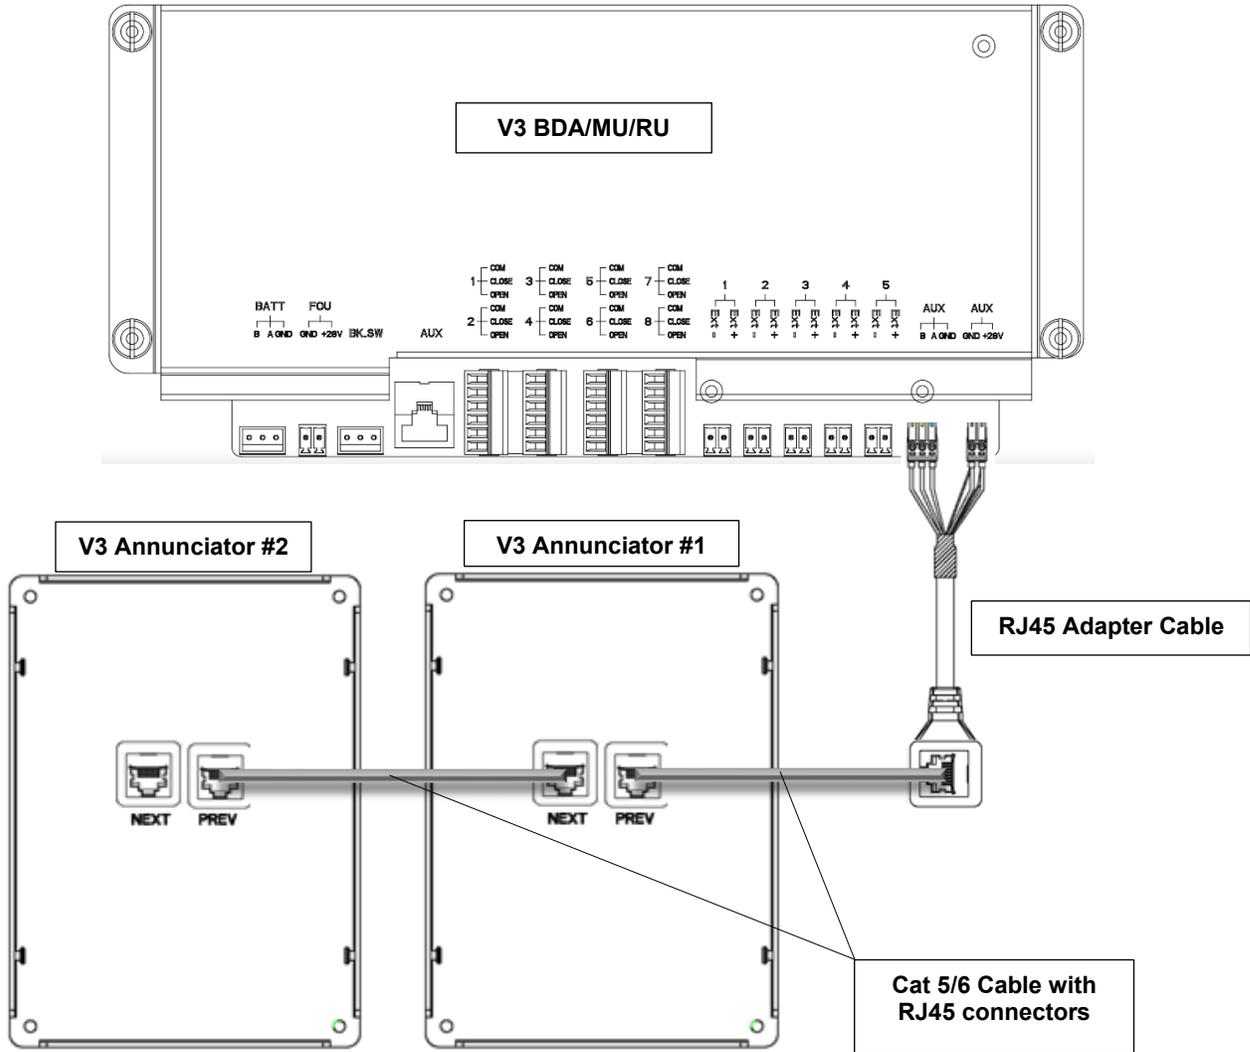

Figure 39: V3 BDA/MU/RU Wiring Connection to V3 AP
Follow the instructions below, and see Figure 39 below, to connect a V3 AP to the V3 BDA/MU or RU:
- Connect the RJ45 adapter to the BDA/MU/RU as shown in Figure 39 below.